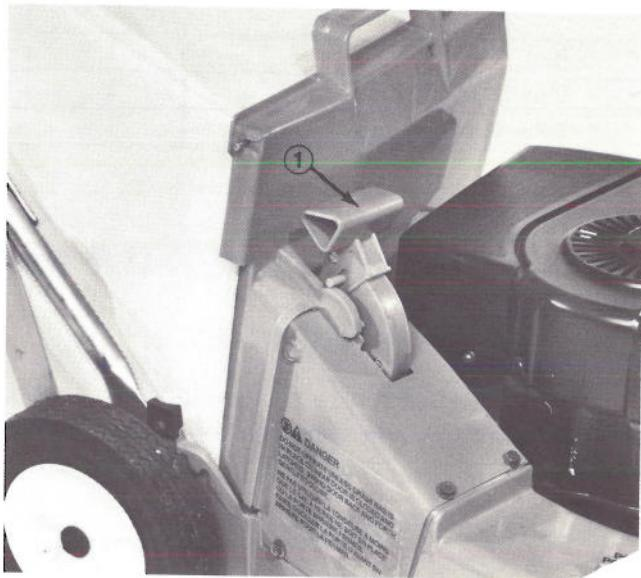

Figure 6
- Rotate mulching door handle upward to open discharge chute and lock bag in place (Fig. 6).